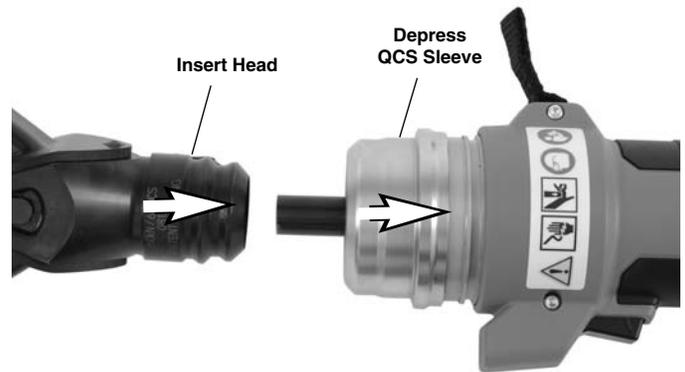

Figure 6 – Installing an interchangeable head in the TaskMaster™
5. Remove the battery from the tool. Depress the QCS sleeve on the electrical tool and remove/insert the appropriate interchangeable head. Release the sleeve to retain the interchangeable head (*Figure 6*). Confirm that the correct interchangeable head for the application is fully inserted and locked into the tool before turning ON. Do not operate without an interchangeable head or head inserts installed – this can damage the electrical tool. (If interchangeable head will not lock into QCS, ensure ram is fully retracted by pressing the pressure release button).